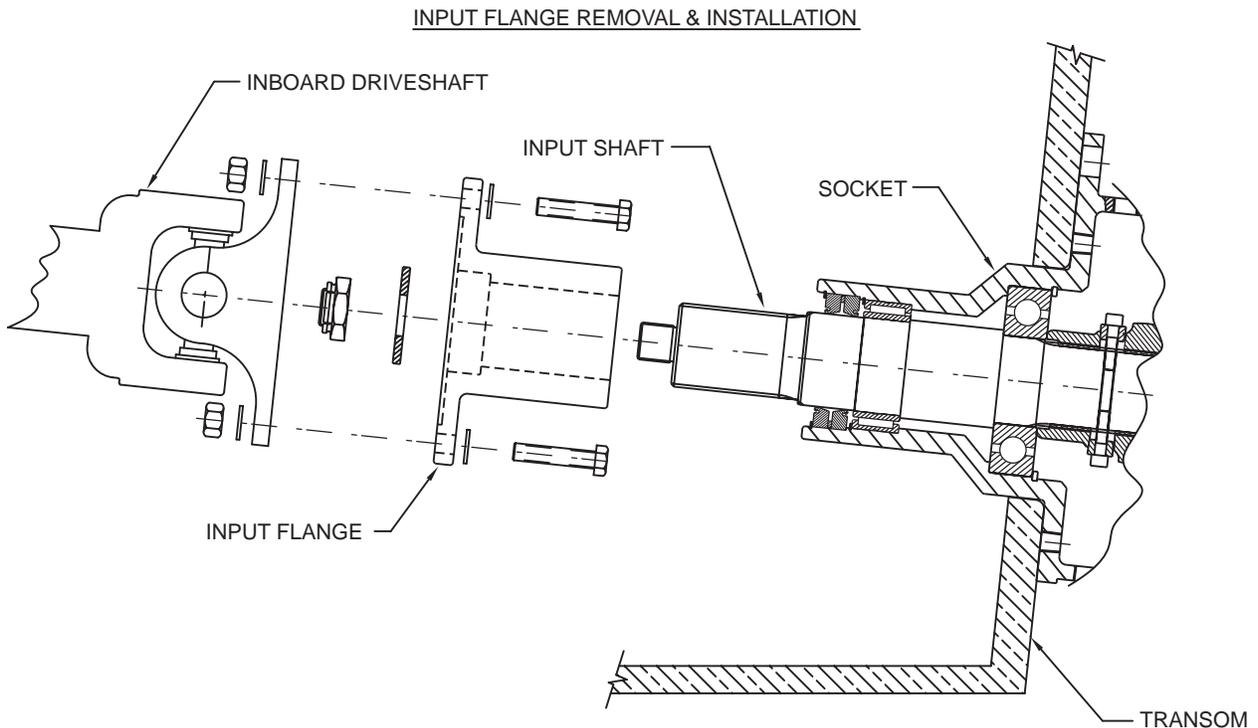

Figure 10. Input Flange Removal and Installation
10. Install the input flange (companion flange) onto the input shaft. See Figure 10. Torque the flange retainer bolts to 100 N-m (75 ft-lbs.).